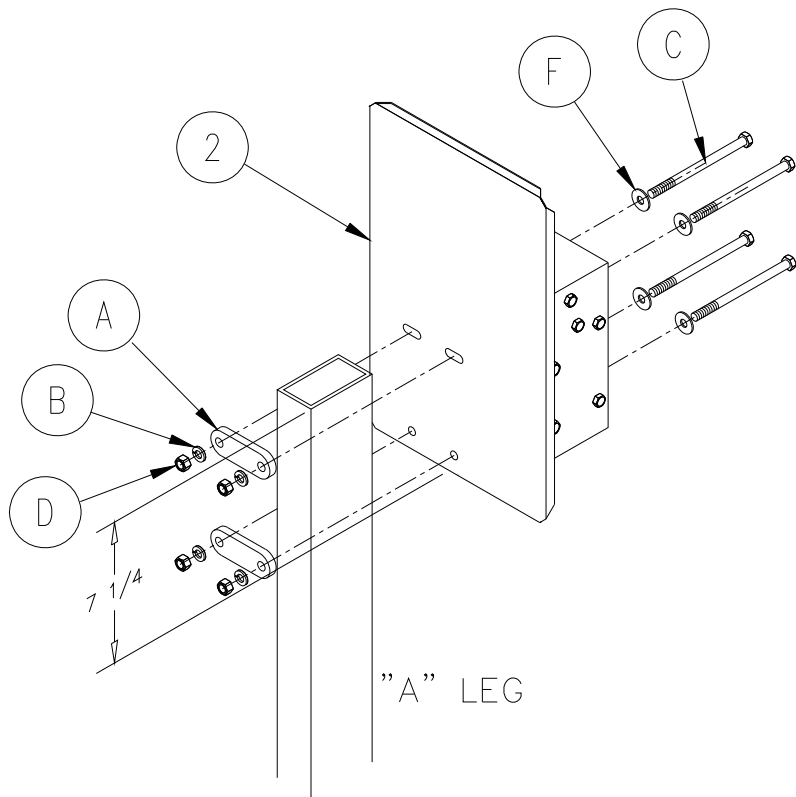
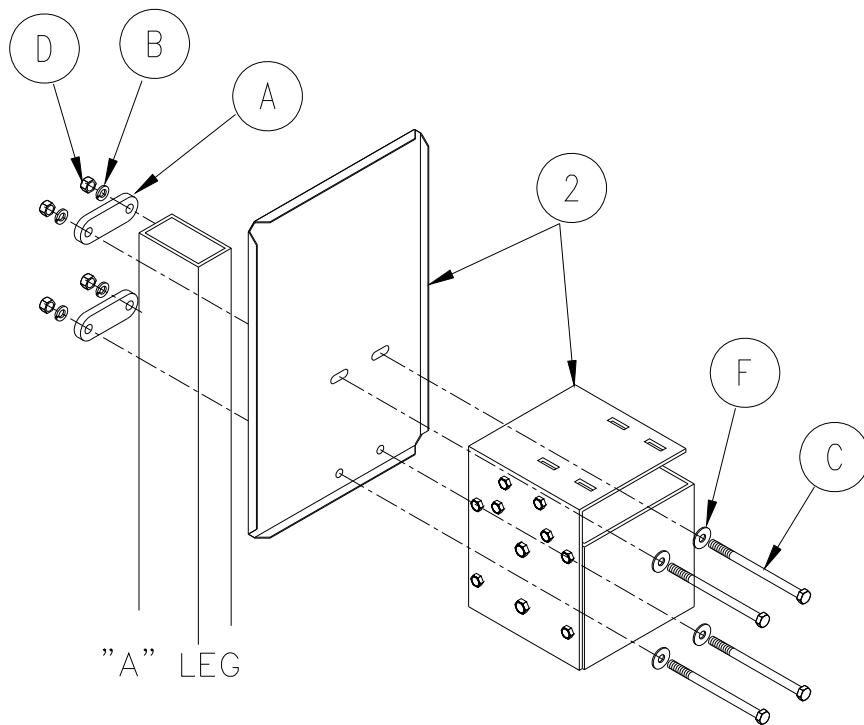

Figure 2-1.
Figure 2-2.
The part reference numbers and letters used in the subassembly drawings of sections 2.3 through 2.9 are the same as those shown in Figure 2-1 and listed in the parts lists of Chapter 4.
1. Refer to figure 2-1 AND FIGURE 2-2. Install the Hefty 1000 winch onto the “A” leg. Mount the Hefty 1000 winch so that the top of the “A” leg is 7-1/4” to the bottom of the winch. Use 3/8-16 x 5-1/2 hhcs (C), flat washer (F), 2-hole plate (A), 3/8” lock washer (B) and 3/8” hex nut (D) to mount the winch. Place the winch so that the top of the winch is flush to the top of the “A” leg.